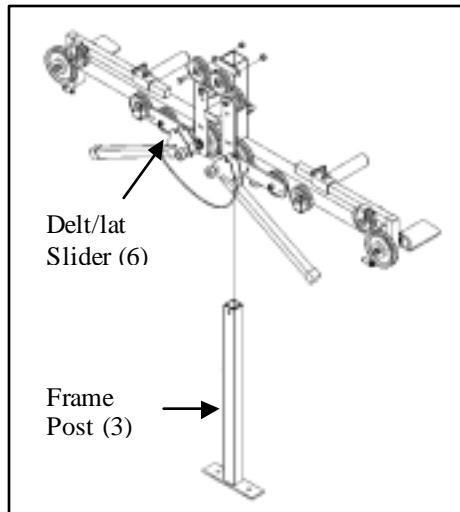
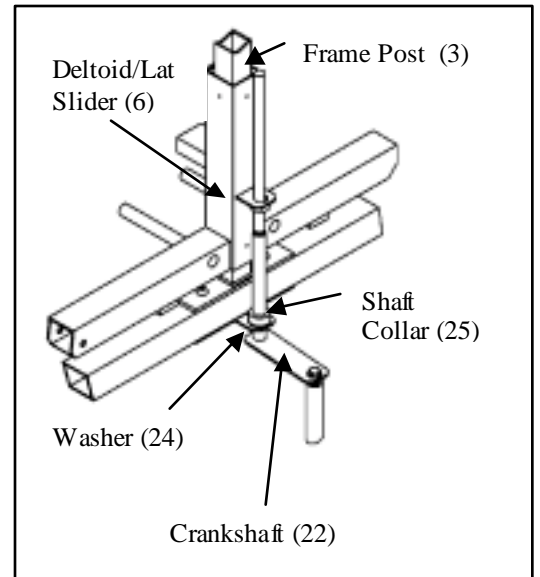

Figure 4
Figure 5
B. Crankshaft Assembly (Figures 4 & 5)
1. Slide the *Deltoid/Lat Slider* (6) down the *Frame Post* (3) (Figure 4). The pulleys should face the inside of the machine.
2. Remove the *Shaft Collar* (25) and *Washer* (24) from the *Crankshaft* (22).
3. Insert the *Crankshaft* (22) through the square tab on the *Frame Post* (3) replacing the *Washer* (24) and *Shaft Collar* (25), in that order (Figure 5).
4. Now completely thread the *Crankshaft* through the tab on the *Deltoid/Lat Slider* (6) until the *Crankshaft* handle is against the square tab on the *Frame Post* (3).